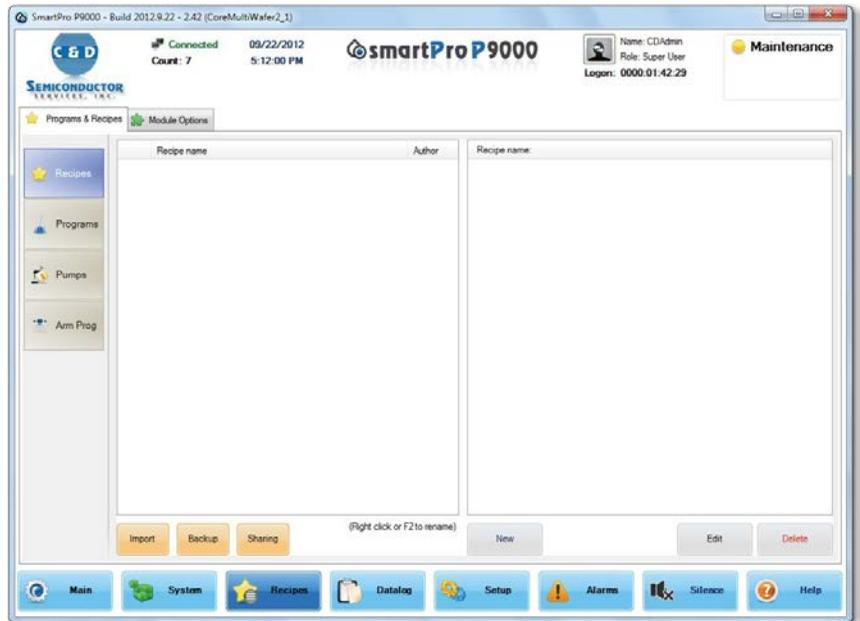

FIGURE 3-24: Managing recipes
- From the side menu, click Recipes. The Recipes page opens. See Figure 3-24.